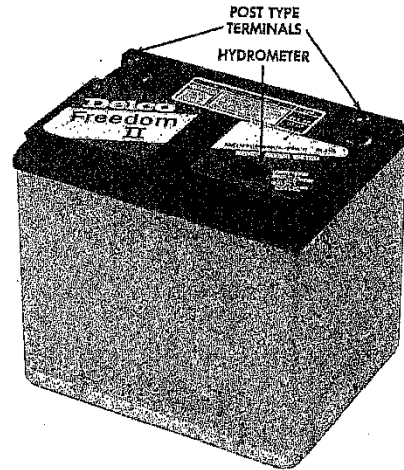

Figure 2—Typical Passenger Car Freedom Battery with Posts
The battery in Figure 2 features top post terminals. Clean cable clamps should be securely tightened to posts. Grease or special spray sealers may be applied over the connections.
2. Freedom Battery (Fig. 2)—Remove cable clamps and be sure parts are clean for a good connection. Attach tester clamps to posts.